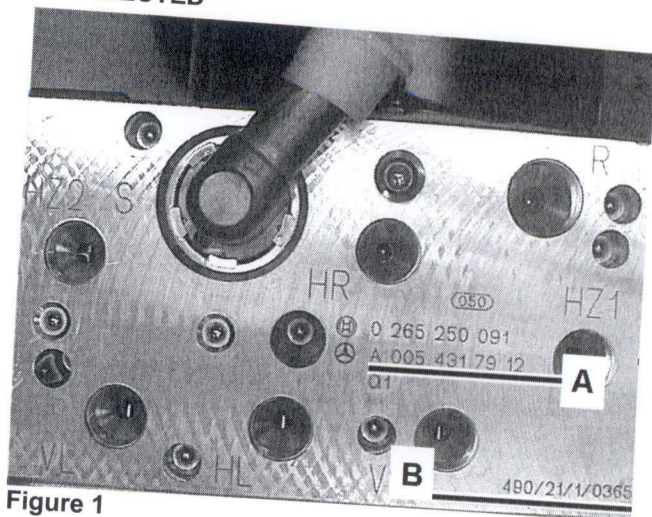

Figure 1
1. Check if part number (A, Figure 1) is listed in the table below:
- If the part number (A) **is** listed, proceed to step 2.
- If the part number (A) is **not** listed proceed to step 3.
2. Check (refer to table below) if the production number (B, Figure 1) is within the listed production number range for the relevant part number (A):
- If the production number (B) is **not** within the production number range proceed to step 3.
- If the production number (B) **is** within the production number range compared to the relevant part number; proceed to Subject **B**, Replacement of SBC Hydraulic unit.
When reading the production number (B, Figure 1) on the SBC hydraulic pump, disregard the slashes.